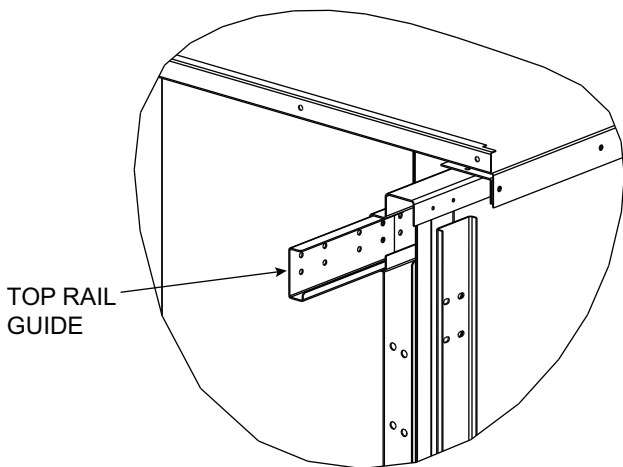

Fig. 37 — Top Rail Guide
5. Insert top rail guides into top rails of the main unit section. Do not attach with screws yet. See Fig. 37.